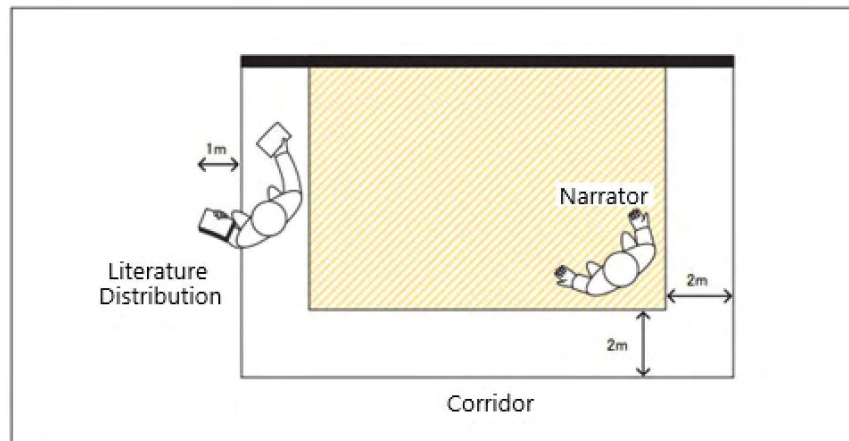

Figure 4. Locations of Narrators and Distributors of Company Materials
### (1) Volume Limitations on Narrators and Audio Presentations (refer to Figure 4).
### (2) Distribution of Promotional Materials and Blocking of Corridors (refer to Figure 4).